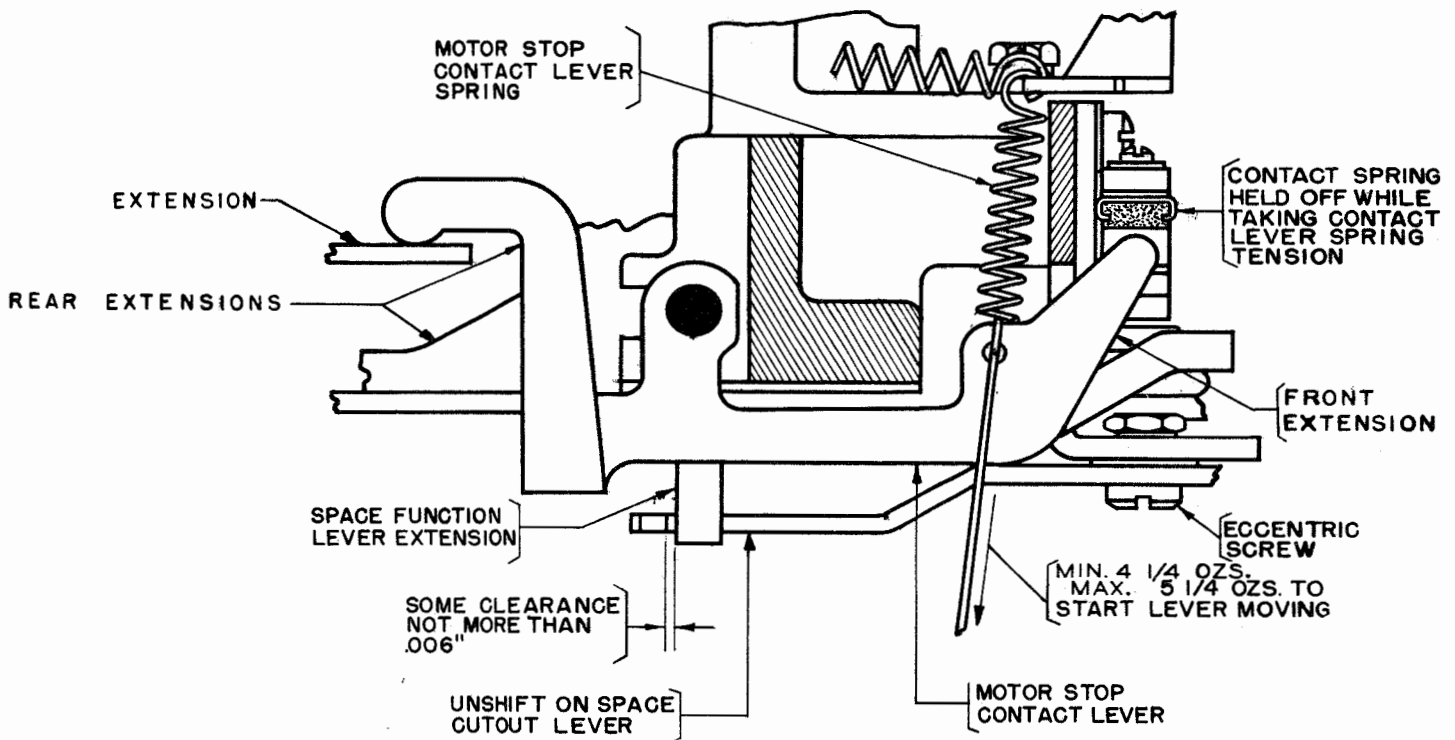

Figure 4
2.08 The Motor-stop Contact-lever Spring should have a tension of minimum 4-1/4 ounces, maximum 5-1/4 ounces when the contact-spring is held away from the lever. (See Figure 4.)